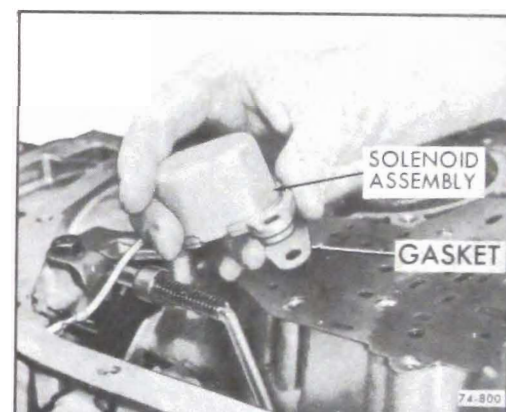

Figure 76-524
6. Remove detent solenoid attaching bolts, solenoid assembly, and gasket. See Figure 76-524.